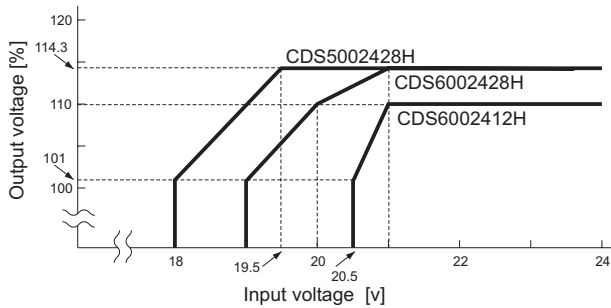

Fig.4.6 Input voltage derating curve
CDS5002428H, CDS6002412H, CDS6002428H : When the output voltage adjustment range is 101% or more, the input voltage range is limited (Fig.4.6).
(1) Adjusting method by external resistor
- By connecting the external potentiometer (VR1) and resistors (R1, R2), output voltage becomes adjustable, as shown in Fig.4.6, recommended external parts are shown in Table 4.3.